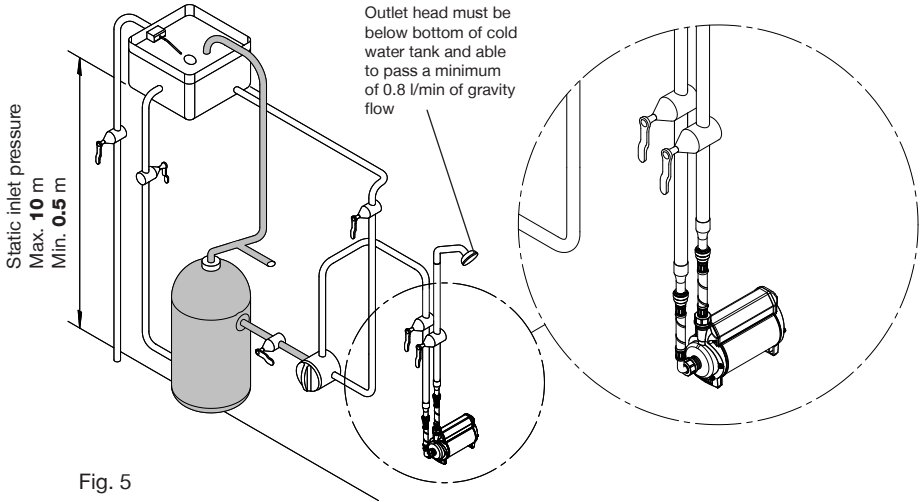

Fig. 5
- 2.16 **Static inlet pressure:** Before deciding where to locate the unit check to ensure the static inlet head between pump and the bottom of the cold water tank (Figs. 5 & 6) is at least 0.5 metres and does not exceed the max inlet head of 10 metres.